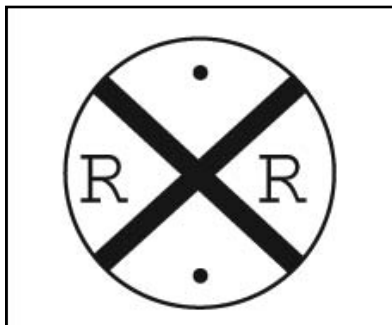

Figure 10.5
**Advance warning signs.** The round, black-on-yellow warning sign is placed ahead of a public railroad-highway crossing. The advance warning sign tells you to slow down, look and listen for the train, and be prepared to stop at the tracks if a train is coming. See Figure 10.5.